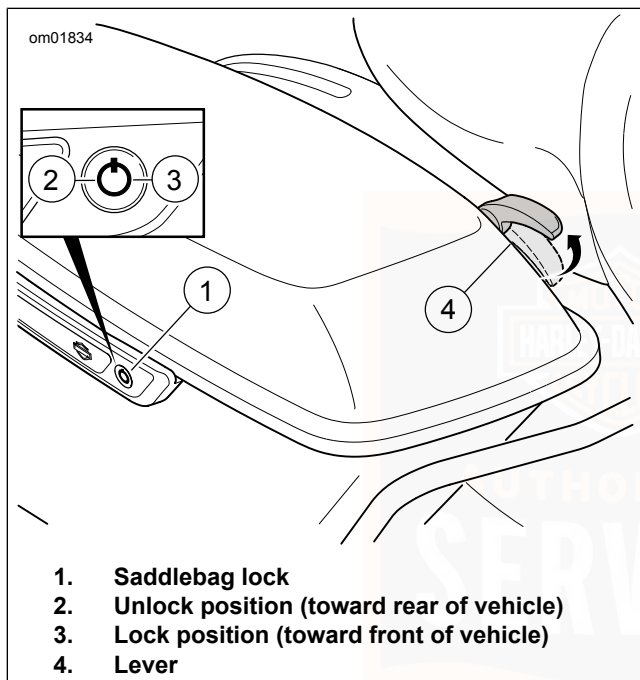

Figure 31. Saddlebag
Key: See Figure 31. Insert key and rotate one-quarter turn toward front of vehicle. Return key to center and remove key.
Key: See Figure 31. Insert key and rotate one-quarter turn toward rear of vehicle. Return key to center and remove key.
1. See Figure 31. Unlock saddlebag.
1. See Figure 31. Close the saddlebag lid.
1. See Figure 31. Open the saddlebag.